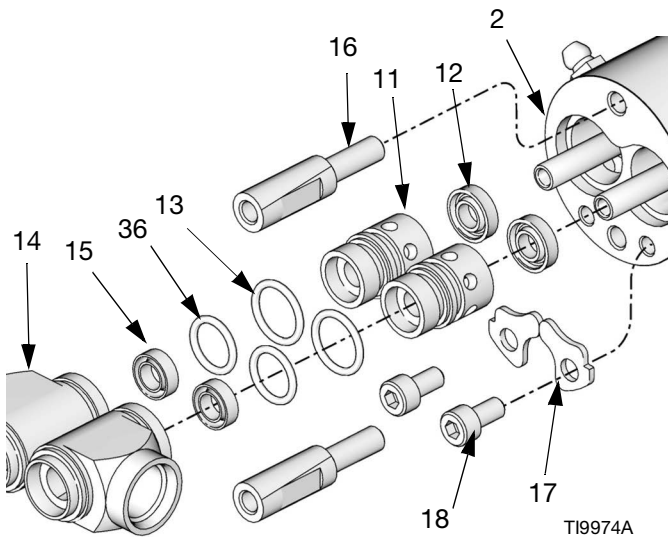

FIG. 7
5. Remove the two fluid housing screws (18) and clamps (17) from the fluid housing (14). Slide the fluid housing (14) off of the air cylinder (2). See FIG. 7.
6. Remove the bearings (11), bearing o-rings (36, 13), and secondary fluid seals (12, 15).
1. Lubricate the bearings (11), o-rings (13, 36) and seals (12, 15). Put the o-rings (13, 36) on the bearings. Carefully insert the seals (12) into the bearing recess, with the lips of the seals facing into the bearing. Insert the seals (15) into the bearing with the spring facing out of the housing. Be careful not to damage the seal lips. See FIG. 7.
2. Push the bearings (11) into the air cylinder (2).
3. Grease the fluid housing (14) and install over the bearings (11). Install the clamps (17) and screws (18). Tighten to 25-30 in-lb (2.8-3.4 N•m).
4. **255180, 255182, 255900, 255901, and 255902**, insert the gaskets (28) and seats (27).